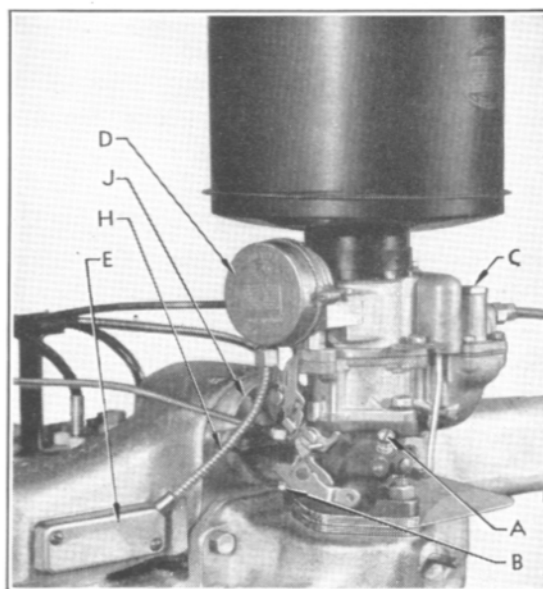
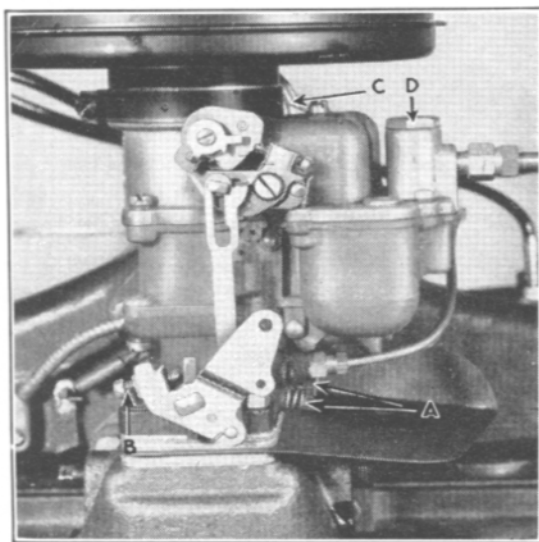

Figure 16
Figure 17
Models 20 and 28 use a single barrel carburetor, Fig. 16, with one metering rod.
Models 21, 22, 24, 25, and 27 use a Duplex (double barrel) type carburetor, Fig. 17, incorporating two metering rods, one for each barrel.
IDLE MIXTURE ADJUSTMENT—Models 20 and 28. This adjustment is made by turning idle mixture screw (A), Fig. 16. The normal setting is $\frac{1}{2}$ to $1\frac{1}{2}$ turns off its seat. To adjust, first turn the screw into its seat and then out exactly one turn. Readjust for smooth idling. Turning the screw in a *clockwise* direction produces a leaner mixture and turning it in a *counter-clockwise* direction results in a richer mixture.
IDLE MIXTURE ADJUSTMENT—Models 21, 22, 24, 25, and 27. This adjustment is made by turning both idle adjusting screws (A), Fig. 17. The normal position of these screws is $\frac{1}{4}$ to 1 turn off their seats. To adjust them turn both screws into their seats and then out exactly $\frac{3}{4}$ of a turn. Readjust
THROTTLE ADJUSTING SCREW (B), Figs. 16 and 17, controls the engine idle speed. This screw should be adjusted to give a speed of 7½ to 8 miles per hour in high gear.
The thermostatic housing spring which is contained within the thermostat housing (D), Fig. 16, on single type carburetors and in housing (C), Fig. 17, on Duplex carburetors is calibrated to hold the choke valve closed at a temperature of 75° F. when it is set at the factory. As the engine warms up the hot air drawn into the thermostat housing through a stove (E), Fig. 16, attached to the exhaust manifold on 6 cylinder models and through a pipe passing through the exhaust manifold with the opening below the floor of the manifold on 8 cylinder models, it causes the thermostatic coil spring to release its tension on the choke valve, permitting it to open gradually. Thus as the engine temperature increases, the choke valve gradually opens, resulting in a leaner mixture being fed into the engine to meet operating requirements.
MANIFOLD HEAT CONTROL VALVE (J), Fig. 16, on models 20 and 28 is in proper position when the pointer is directed toward the letter "W" on the rear slope of the manifold.
FILTER SCREEN CAP (C), Fig. 16, on single type carburetors and (D), Fig. 17, on Duplex carburetors should be removed and the screen cleaned every 2,000 miles.